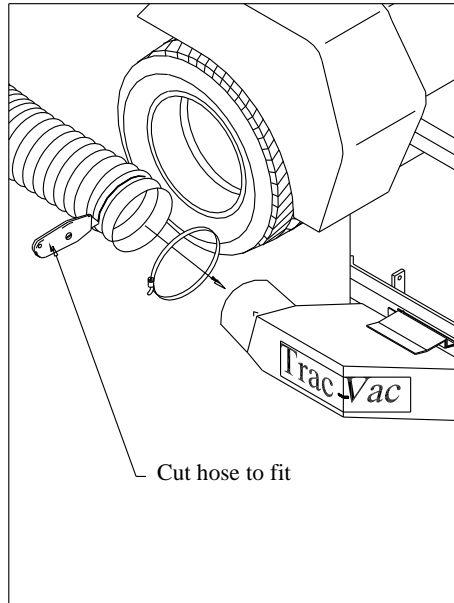

Fig. 14
13. Cut intake hose to fit and attach free end of intake hose (25) to discharge chute with 8" band clamp (24). **(Fig. 14)**